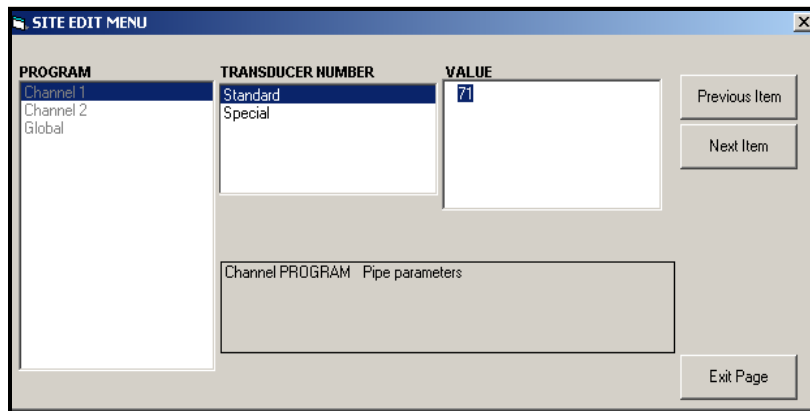

Figure 43: The Pipe Parameters Option in the *Site Edit Menu*
- a. Highlight and double-click on the desired option in the center pane. Figure 43 on page 98 shows the first entry (Transducer Number) in the *Pipe Parameters* option. The title above the center pane lists the current entry, while the center pane displays the available selections for that entry.